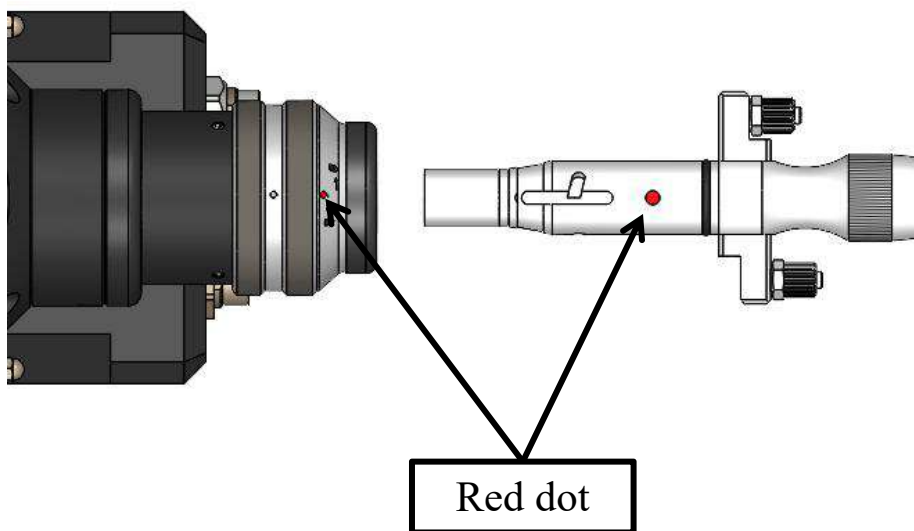

Figure 2.5
- ④ Align the red dot on the fiber head with the red dot on the QBH connector, and slowly insert the fiber head into the QBH connector, as shown in Figure 2.5:
① Open the software configuration platform and set the focus retreat distance as 70mm (slightly adjusted based on realities) to make the collimation focus at the zero position (by taking BOCHU as an example), as shown in Figure 2.5.